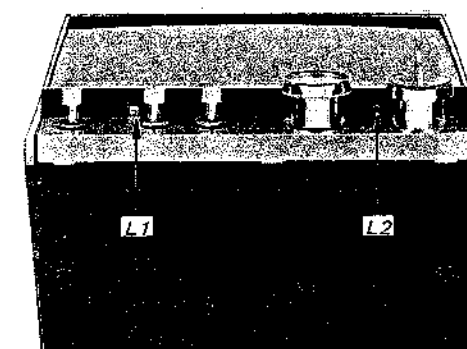

Fig. 2-19.
1. Remove the two screws labeled L1, L2 in Fig. 2-19.